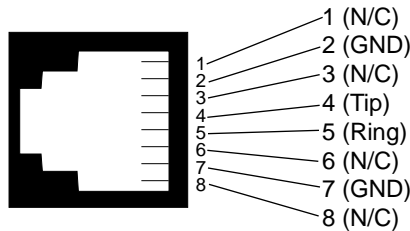

Figure 9. Model 1092RC twisted pair line interface.
- The RJ-45 connector on the Model 1092RC's twisted pair interface is polarity insensitive and is wired for a two-wire interface. The signal/pin relationships are shown in Figure 9 below.